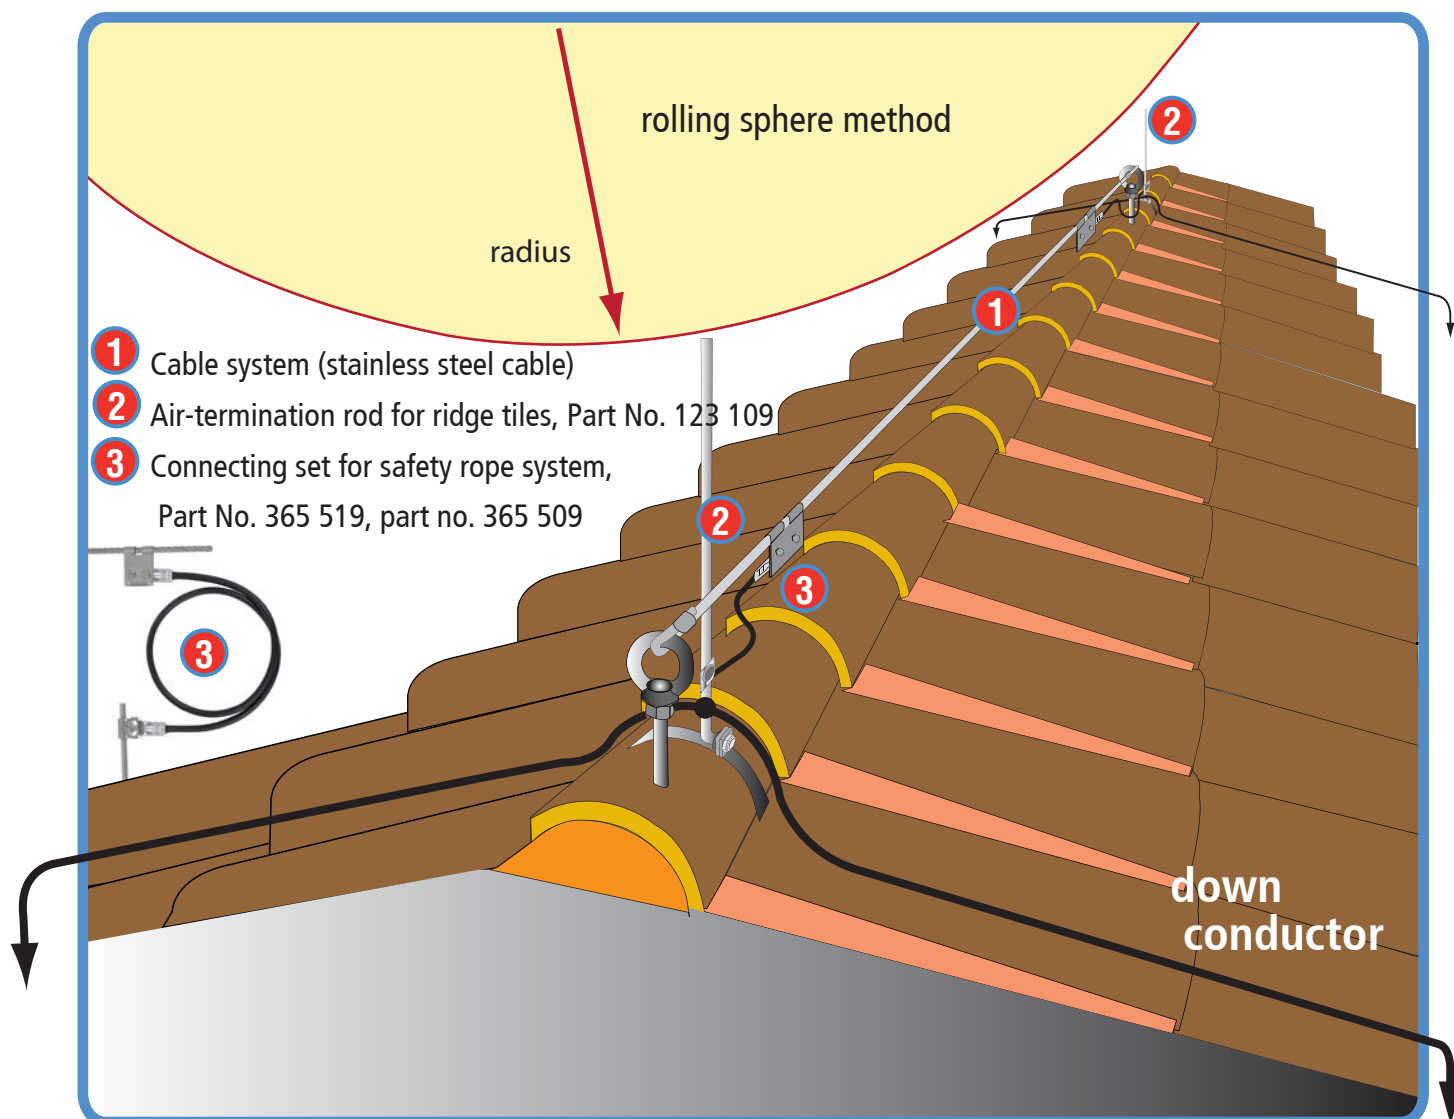
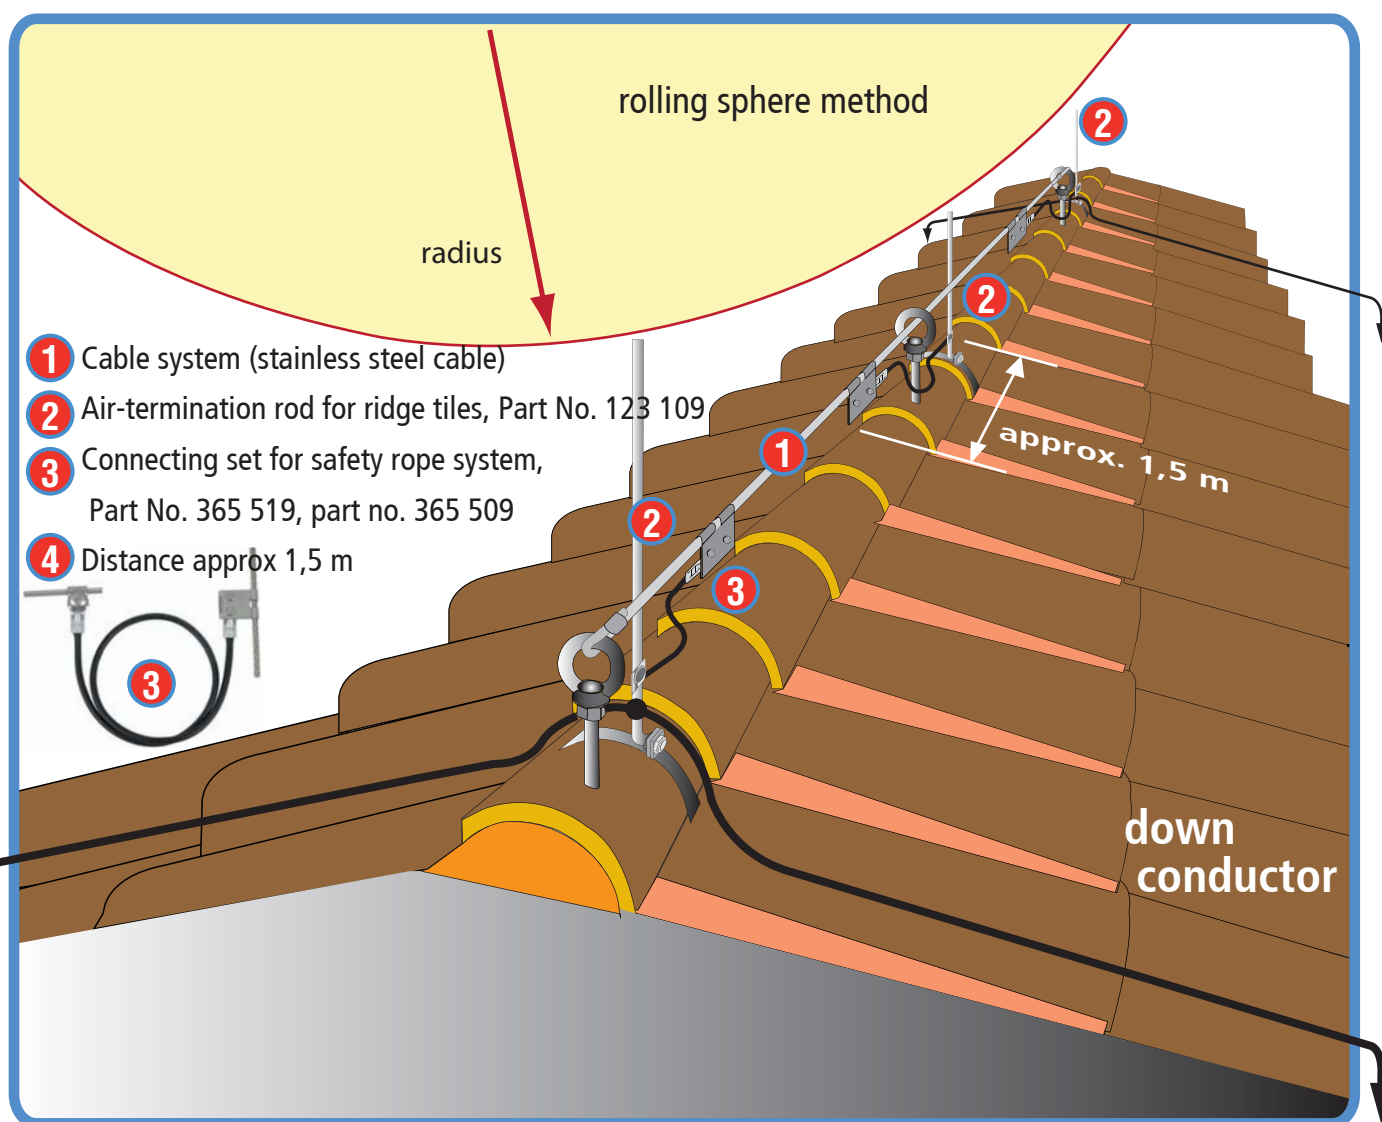

Fig. 4a Building with gable roof – short ridge
Fig. 4b Building with gable roof – long ridge
- In case of a gable roof with short ridge: Connect the outside positioned air-termination rods with the safety rope system by means of the connecting set (see Fig. 4a und Fig. 4b, page 6)
- In case of a gable roof with long ridge: Connect also the air-termination rod in the middle of the roof with the safety rope system (see Fig. 4b, page 6).